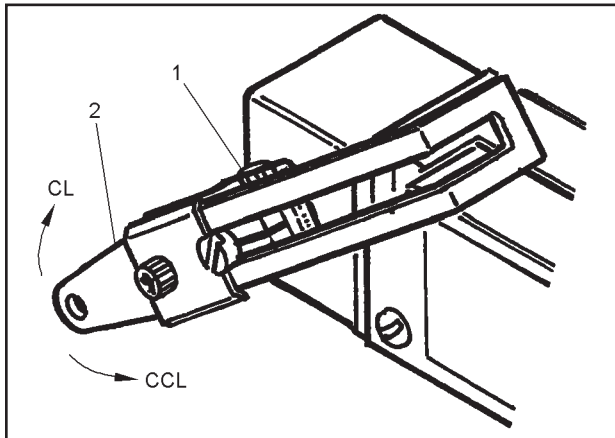

FIGURE 4-12. SETSCREW "A" LOCATION
3. Loosen setscrew "A" (Figure 4-12, item 1), on the actuator arm (item 2). Reposition this arm by either rotating it clockwise or counterclockwise depending where the micro-switch clicked OFF during the conveyor flaps' upward travel.